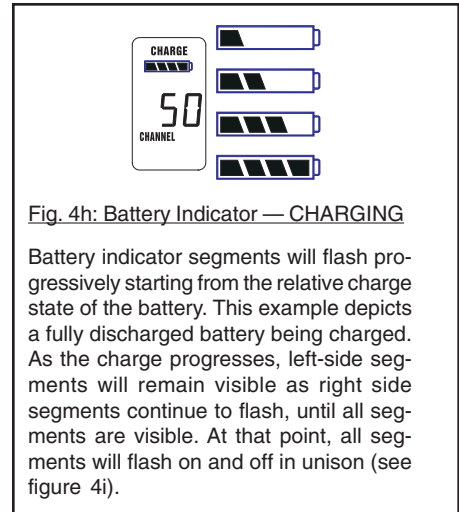
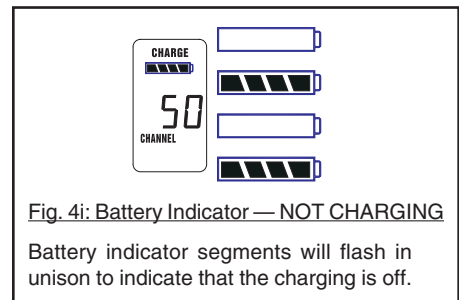

Fig. 4h: Battery Indicator — CHARGING
Fig. 4i: Battery Indicator — NOT CHARGING
**Charging Indicators.** Much like your cell phone, the transmitters will let you know the charging status of the battery. When the battery is charging, the battery meter will flash to indicate the relative level of the charge — one, two, three or four elements will flash (see figure 4h). Once the battery is fully charged, all four elements in the battery meter will flash. This indicates that the charging circuit is no longer on (see figure 4i).
**NOTE: indicators may flash in unison for several minutes when charging is first attempted.** The lower the battery level, the longer this initial “not charging” flashing sequence will continue. During this time, the Tireless Wireless battery circuit is evaluating the suitability and charge status of the battery in place. When it has completed its evaluation, it will either commence the progressive flashing depicted in figure 4h (CHARGING), or continue to flash in unison (NOT CHARGING). Flashing in unison signifies that the battery is either fully charged, or not suitable for charging.
**NOTE: the Tireless Wireless battery charger will only charge NiMH rechargeable batteries.** If you place any other kind of battery in the transmitter, and then attempt to charge it by connecting the charger, the Tireless Wireless circuit will detect the type of battery and will not begin charging. Again, the battery indicator on the transmitter will flash all four elements indicating no charging (see figure 4i).
Battery indicator segments will flash progressively starting from the relative charge state of the battery. This example depicts a fully discharged battery being charged. As the charge progresses, left-side segments will remain visible as right side segments continue to flash, until all segments are visible. At that point, all segments will flash on and off in unison (see figure 4i).